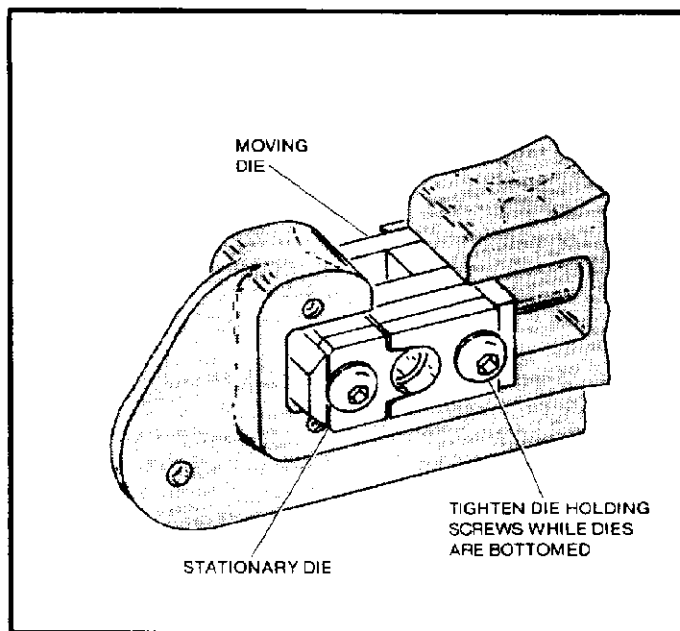

Figure 2
- (g) Tighten both die holding screws while dies are bottomed. See Figure 2.